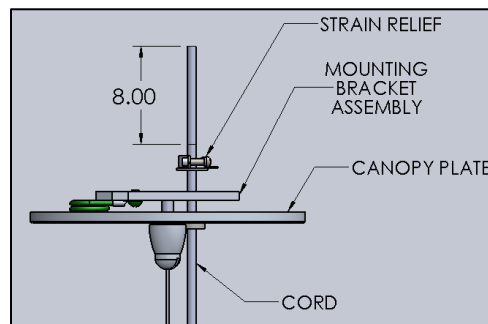

FIG. 33 – CORD INSTALLATION DETAIL
10. Make sure to leave minimum of 8.00" past the top of the STRAIN RELIEF for making wire connections to driver as shown below in FIG 33.